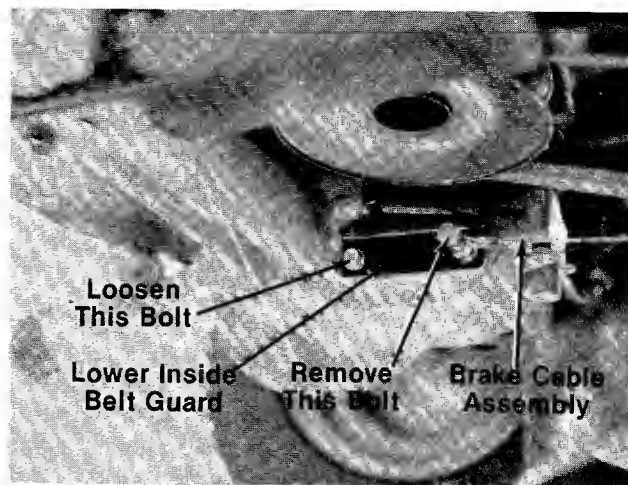

FIGURE 23.
7. Remove the hex bolt at the lower inside belt guard (at transaxle) which holds the brake cable assembly. See figure 23. A 3/8" wrench is required.
8. Loosen the second bolt (**do not** remove), then pivot the guard upward, and slip the deck belt off the engine pulley. See figures 23 and 24.